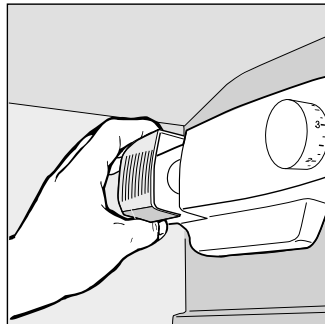

Fig. 4
- Replacing the light bulb. The bulb for lighting the interior of the refrigerator is located at the back of the thermostat box. When replacing the lamp, unplug the appliance from the electrical socket, unscrew the burned out lamp and replace it with another with a wattage no higher than 15W (fig. 4).